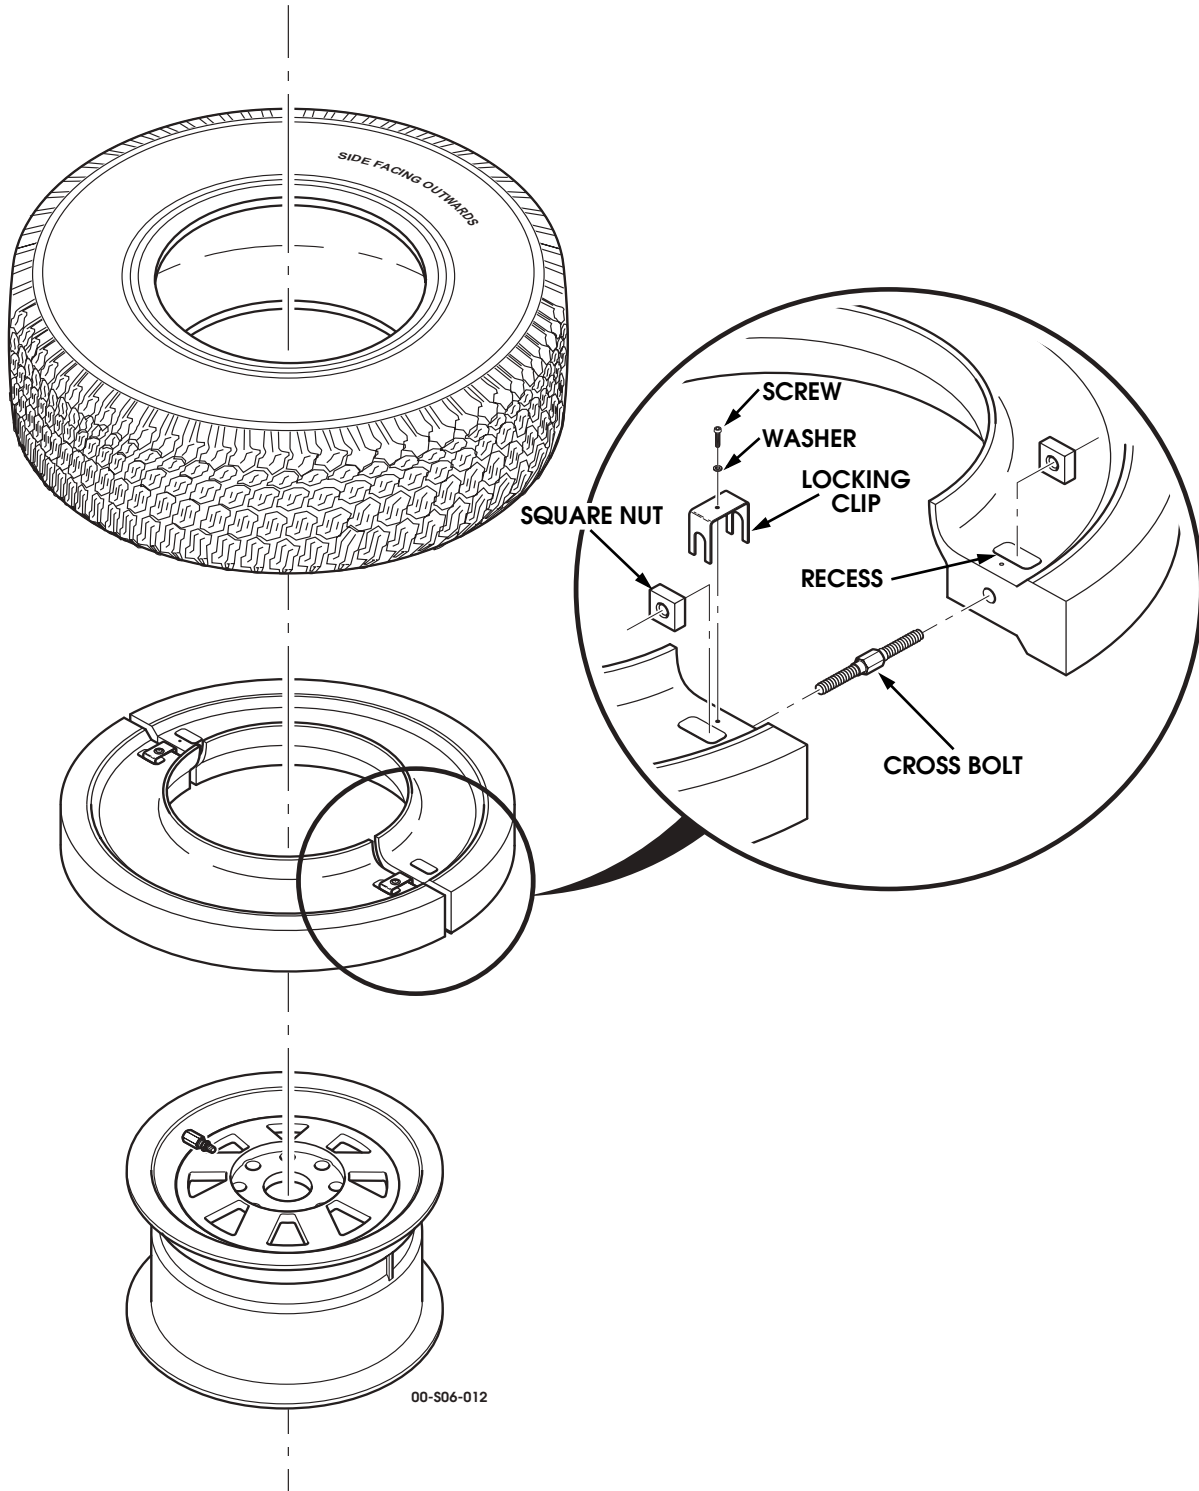

Figure 6-24: Runflat Installation
11. Remove the retaining screw, washer and crossbolt locking clip (Figure 6-24).